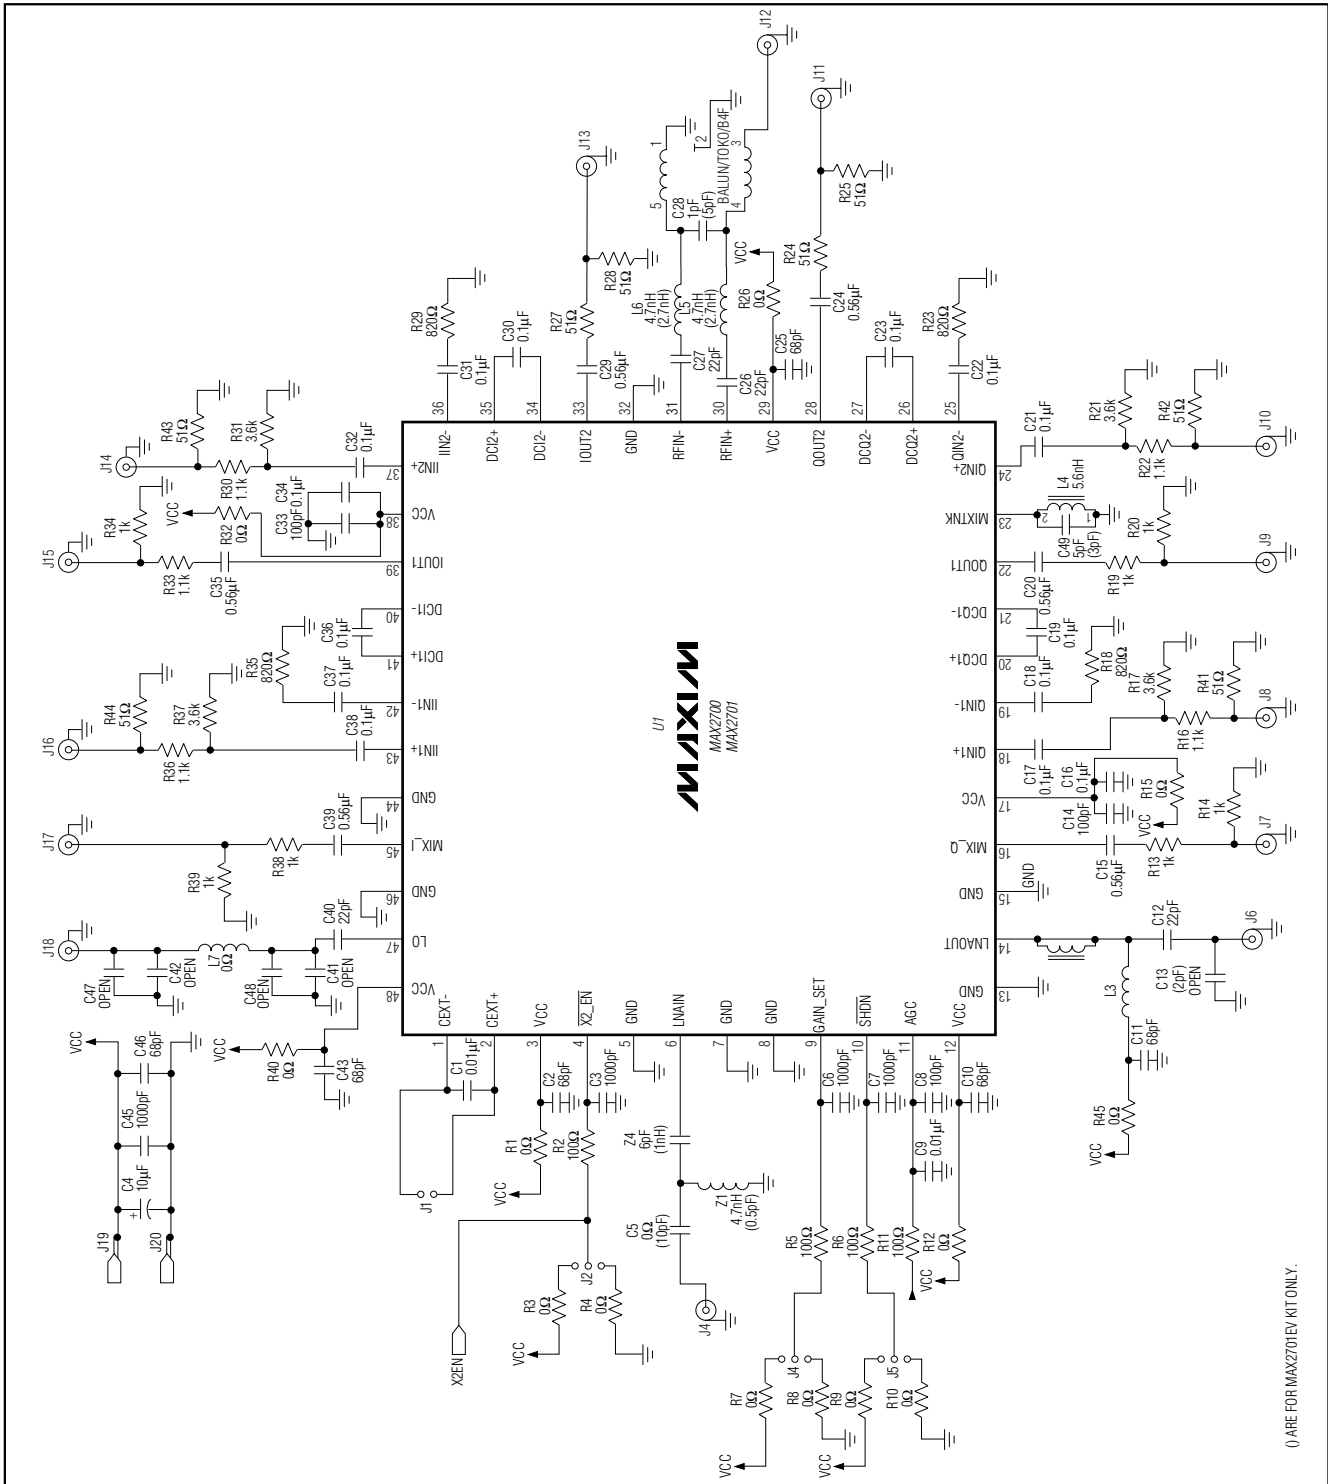

Figure 3. MAX2700/MAX2701 EV kit Schematic
(MAX2700/MAX2701 EV kit (Figure 3), $V_{CC} = +3.0V$, $T_A = +25^\circ C$, $\overline{SHDN} = \overline{GAIN_SET} = V_{CC}$, $\overline{X2_EN} = GND$, CEXT+ connected to CEXT-, $P_{LO} = -13dBm$, $F_{LO} = 980MHz$ (MAX2700) and $1200MHz$ (MAX2701), $P_{LNAIN} = -30dBm$, $P_{RFIN} = -25dBm$, LNAIN and RFIN (single-ended input to balun) driven from 50Ω source, LNAOUT terminated into load; MIX_I, MIX_Q AC-coupled to $2k\Omega$ load; IIN1+, QIN1+, IIN2+, QIN2+ driven from $1.1k\Omega$ AC-coupled source; IOU1, QOUT1 AC-coupled to $2k\Omega$; IOU2, QOUT2 AC-coupled to 100Ω ; input to VGAs, $20mVp-p$ at $1MHz$ tone, set $V_{AGC} = 1.25V$, unless otherwise noted.)
(MAX2700/MAX2701 EV kit (Figure 3), $V_{CC} = +3.0V$, $T_A = +25^\circ C$, $\overline{SHDN} = \overline{GAIN_SET} = V_{CC}$, $\overline{X2_EN} = GND$, CEXT+ connected to CEXT-, $P_{LO} = -13dBm$, $F_{LO} = 980MHz$ (MAX2700) and $1200MHz$ (MAX2701), $P_{LNAIN} = -30dBm$, $P_{RFIN} = -25dBm$, LNAIN and RFIN (single-ended input to balun) driven from 50Ω source, LNAOUT terminated into load; MIX_I, MIX_Q AC-coupled to $2k\Omega$ load; IIN1+, QIN1+, IIN2+, QIN2+ driven from $1.1k\Omega$ AC-coupled source; IOOUT1, QOUT1 AC-coupled to $2k\Omega$; IOOUT2, QOUT2 AC-coupled to 100Ω ; input to VGAs, $20mVp-p$ at $1MHz$ tone, set $V_{AGC} = 1.25V$, unless otherwise noted.)
(MAX2700/MAX2701 EV kit (Figure 3), $V_{CC} = +3.0V$, $T_A = +25^\circ C$, $\overline{SHDN} = GAIN_SET = V_{CC}$, $\overline{X2_EN} = GND$, CEXT+ connected to CEXT-, $P_{LO} = -13dBm$, $F_{LO} = 980MHz$ (MAX2700) and $1200MHz$ (MAX2701), $P_{LNAIN} = -30dBm$, $P_{RFIN} = -25dBm$, LNAIN and RFIN (single-ended input to balun) driven from 50Ω source, LNAOUT terminated into load; MIX_I, MIX_Q AC-coupled to $2k\Omega$ load; IIN1+, QIN1+, IIN2+, QIN2+, driven from $1.1k\Omega$ AC-coupled source; IOUT1, QOUT1 AC-coupled to $2k\Omega$; IOUT2, QOUT2 AC-coupled to 100Ω ; input to VGAs, $20mVp-p$ at $1MHz$ tone, set $V_{AGC} = 1.25V$, unless otherwise noted.)
*C19, C23, C30, C36 in the EV kit schematic in Figure 3 represent DC offset capacitors.